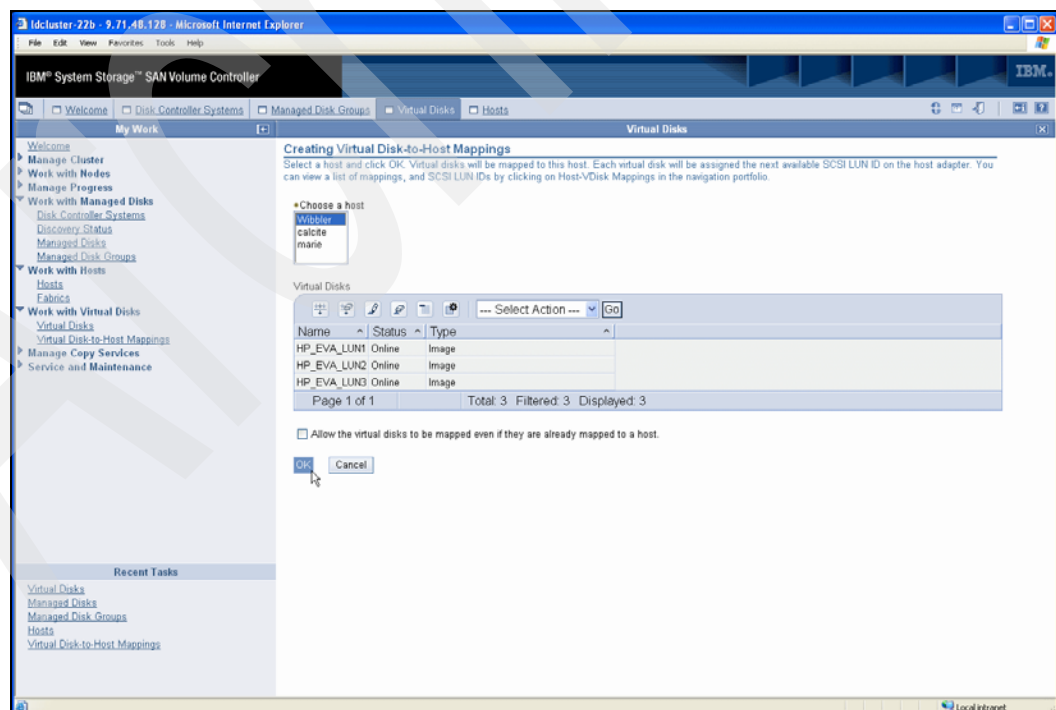

Figure 7-23 Selecting the host to map the VDisks to
4. On the next panel (Figure 7-23), select the host you want to map the VDisks to. Since you defined the host previously, you should see the host name listed. Select the host and click OK.